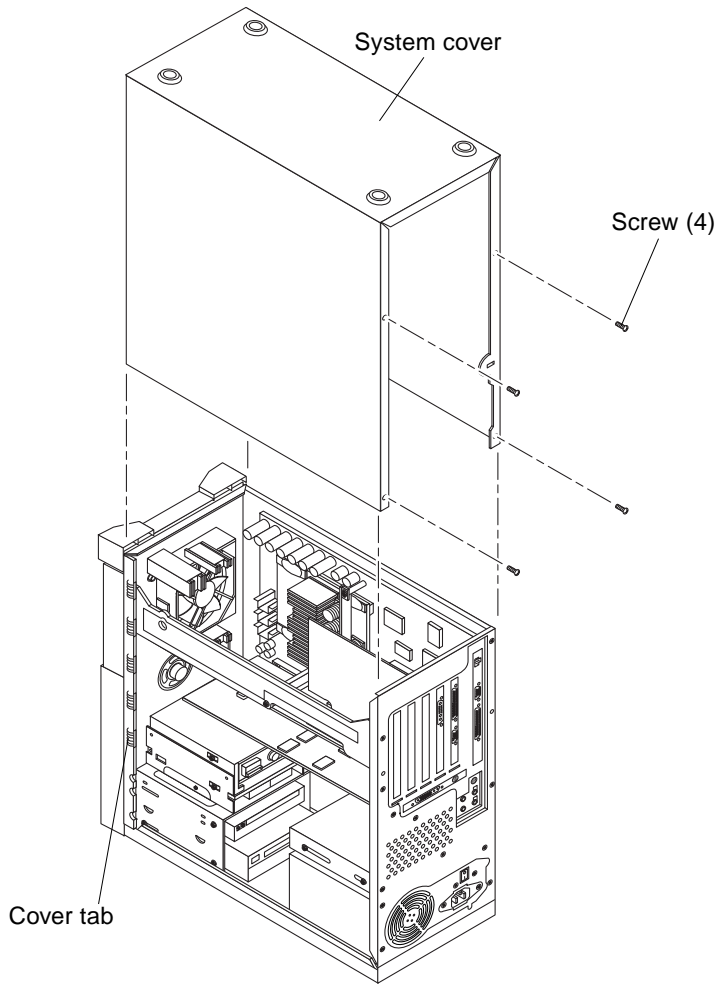

FIGURE 2-8 Replacing the Ultra 10 System Cover
2. **Replace the system cover as follows: (FIGURE 2-8):**